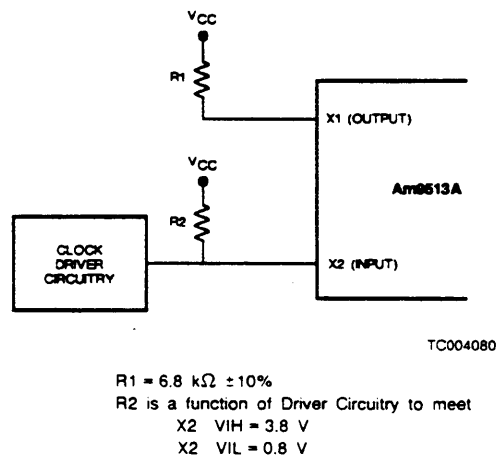
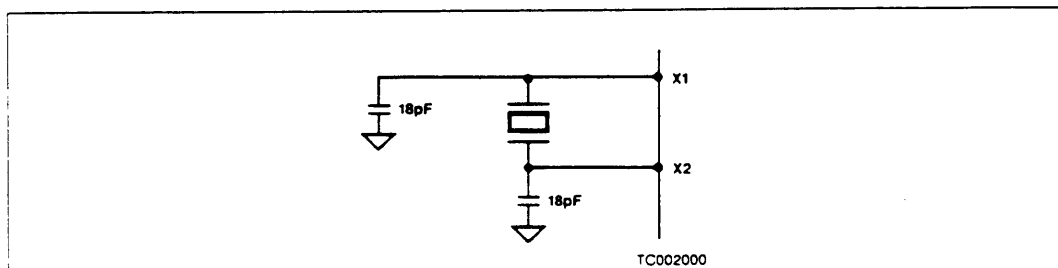

Figure A1. Crystal Input Configuration
Figure A2. Crystal Input Configuration
- 1) When a crystal is not being used, X1 and X2 should be connected as shown for TTL input (Figure A1) and no input (Figure A2).